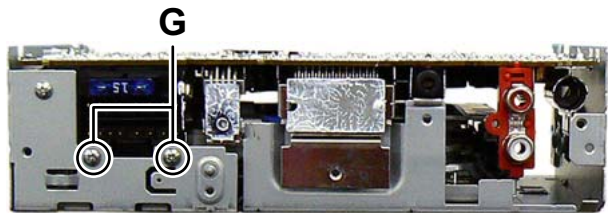

Fig.3-5
### 3.1.4 Removing the MAIN BOARD assembly (See Fig.3-5, 3-6)
- (1) Remove the two screws **G** and the two screws **H** attaching the MAIN BOARD assembly. (See Fig.3-5, 3-6)